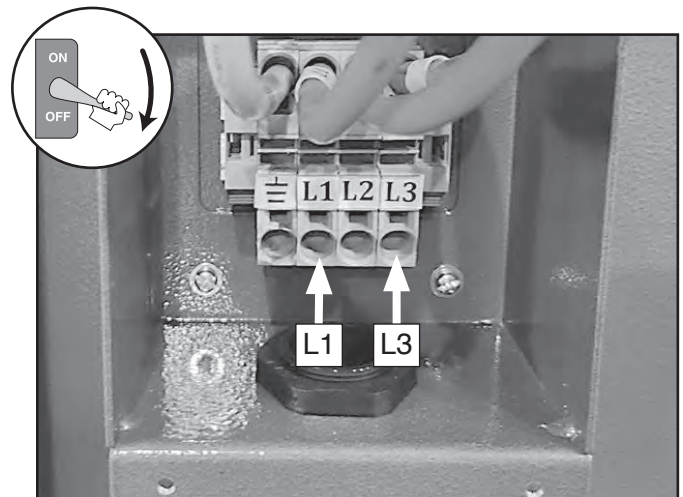

Figure 26. Location of L1 and L3 terminals.
2. Open junction box and swap incoming wires connected to L1 and L3 terminals (see Figure 26).